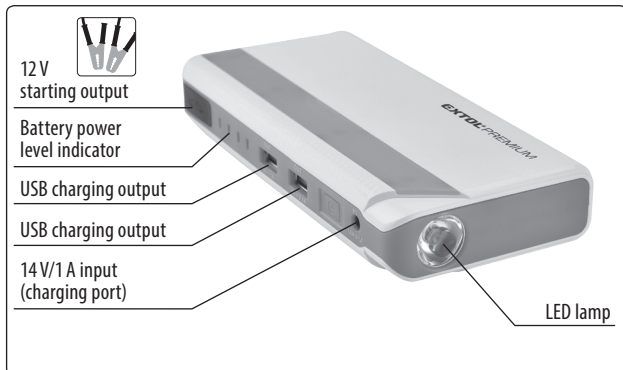
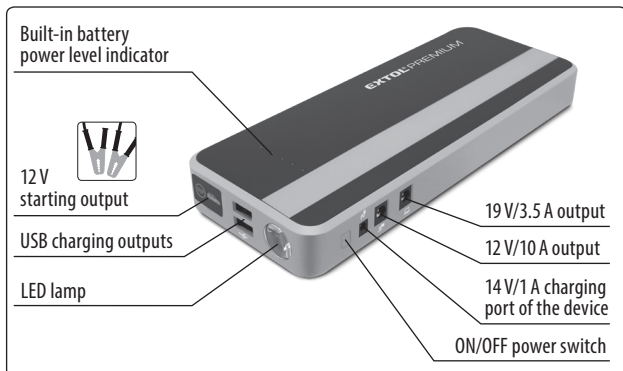
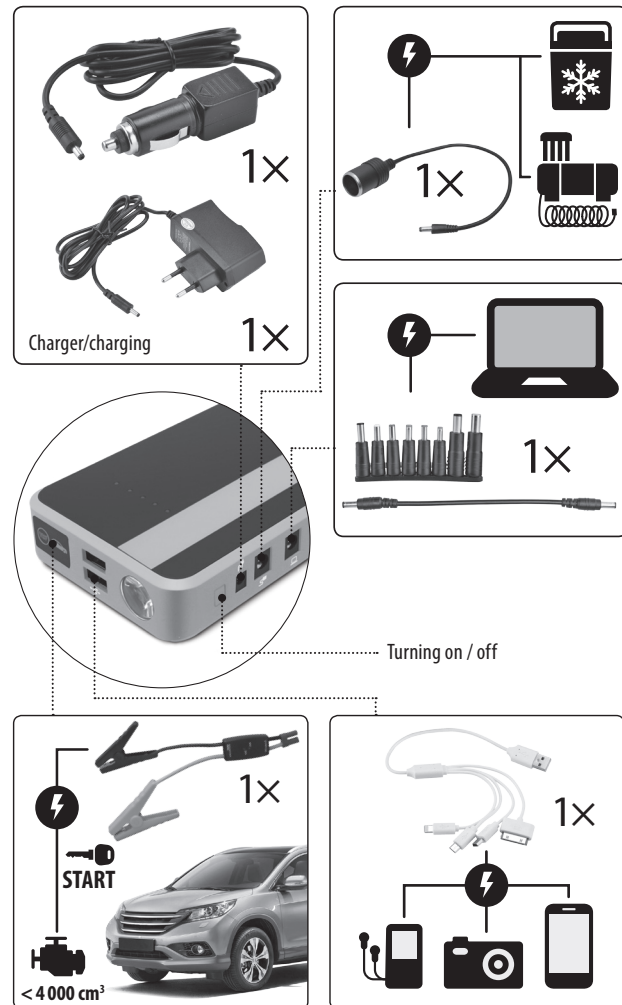

Fig. 7
Fig. 8
Fig. 9
*) Use of the ports and outputs is described in chapter 2 and in fig. 7 and 8 depending on the model.
The use of ports on model **Extol® Premium 8897321** is shown in figure 9 (model Extol® Premium 8897320 has a 12 V/10 A and a 19 V/3.5 A output and the position of the remaining outputs and parts is different as shown in fig. 7).
- 3) Insert the jump start cable connector into the powerbank socket (see 12 V jump start output fig. 7 or 8 depending on model).
- Insert the appropriate cable plug into the powerbank socket based on the charged/powering appliance as shown in fig.7 and fig.8 and table 2 based on the model of the device (for model Extol® Premium 8897321 also as shown in fig.9) and then press the ON/OFF button on the powerbank.